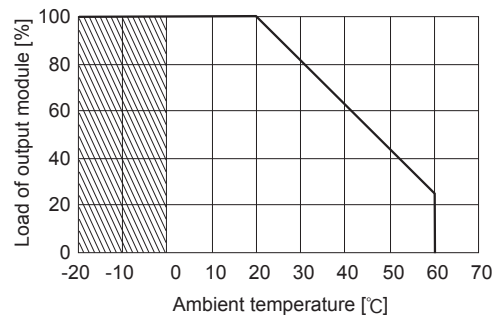

Fig. 5.5 Derating curve for operational ambient temperature (-T)
- The difference from standard products is shown in Fig.5.5.